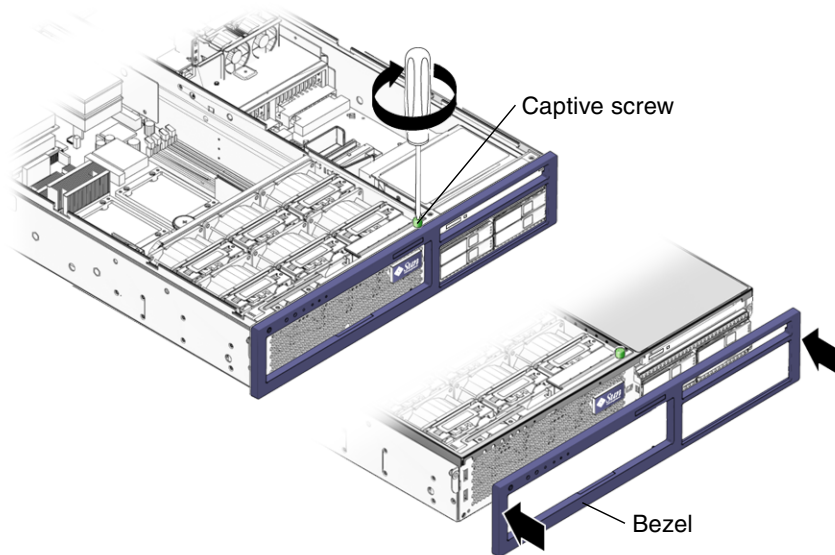

FIGURE 3-40 Installing the Bezel
4. **Position the bezel on the front of the chassis and snap it into place** (FIGURE 3-40).